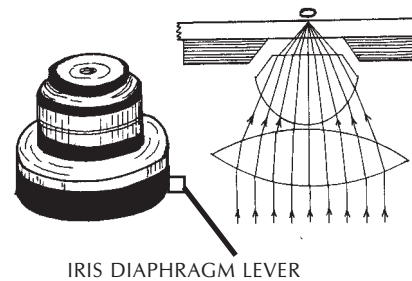

Fig. 3.6
- The condenser (Fig. 3.6) illuminates the specimen and controls the amount of light and contrast. There are different types of condensers. Some condensers have a rack-and-pinion mechanism for up-and-down adjustment.